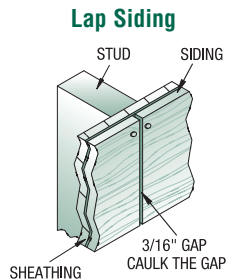

FIG. 2
- All lap products require that the butt joints be located on the studs and nailed at the joints. See Fig 2.
- Leave 3/16" gap at all butt joints, around all doors and window frames, and at joints in the soffits for all lap and square edge siding. Caulk all gaps. *See Fig 2.*
- Vertical butt joints must be located only on studs. Each piece of siding must be nailed top and bottom to studs. See Fig. 2.
- Nails should be placed no closer than 5/8" from any edge. Nails should penetrate both courses and be nailed both top and bottom on each side of the butt joint. See Fig. 2 and 4.